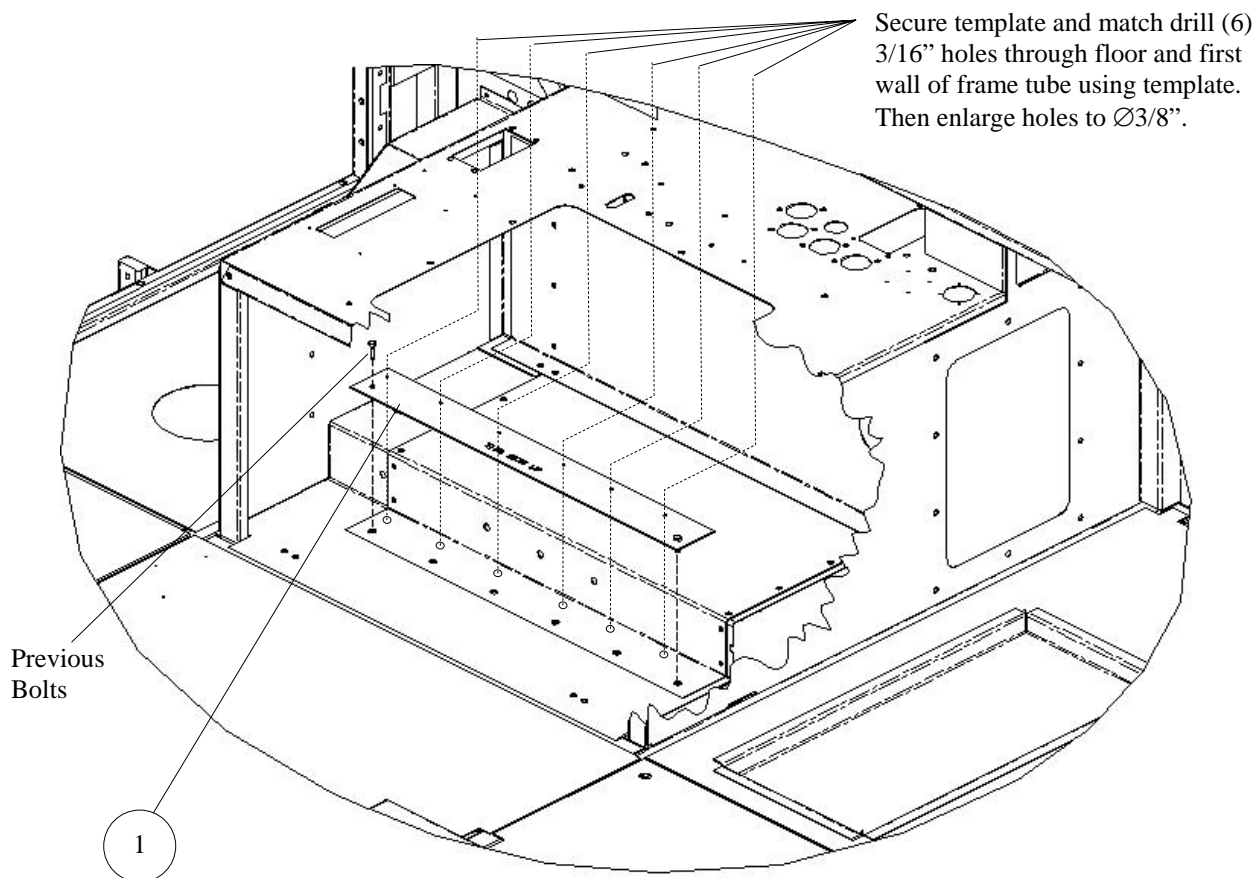

Figure 3-40. Match-Drill Doghouse Floor Panel.
2. Match-drill doghouse floor panel as follows (see Figure 3-40):
- d. Position doghouse floor template (1) onto doghouse floor panel and temporarily secure with two bolts (removed in previous step) at back-outer corners. Tighten bolts for temporary use.